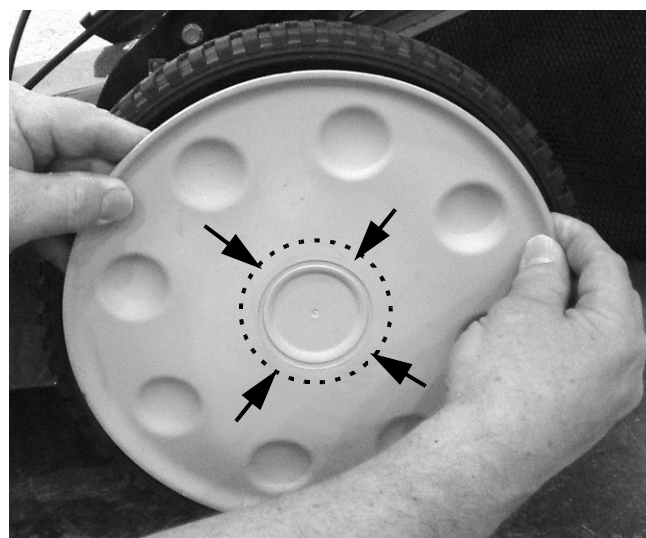

FIGURE 2
3. On the left hand (LH) side of the mower, place a 3"- 4" wood block under the deck side just forward of the rear wheel.
4. Remove the hub cap from the wheel by using a flat blade screw driver to pull the edge of the hub cap away from the wheel. Using your fingers, pull the hub cap off of the wheel hub. The hub cap's "snap-on" retaining feature is on a inner diameter hub. See Figure 2.